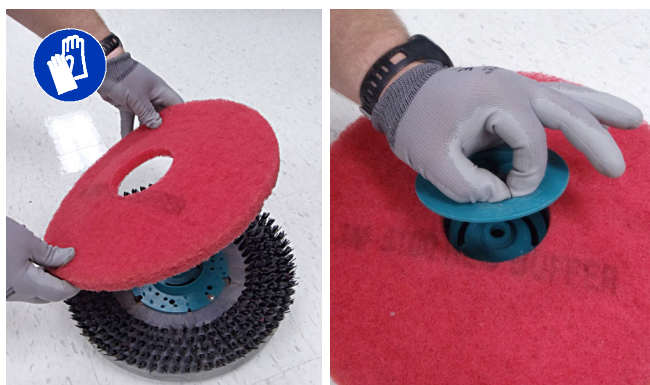

FIG. 9
2. Attach the pad to the pad driver before installing the driver. Secure pad with center-lock (Figure 9).